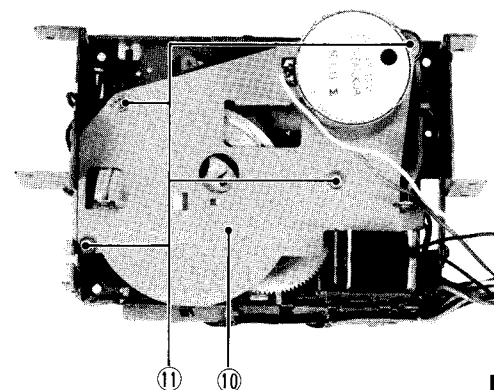

Fig. 8
7. Motor (Fig. 8)
8. Flywheel ass'y (Fig. 8, 9)